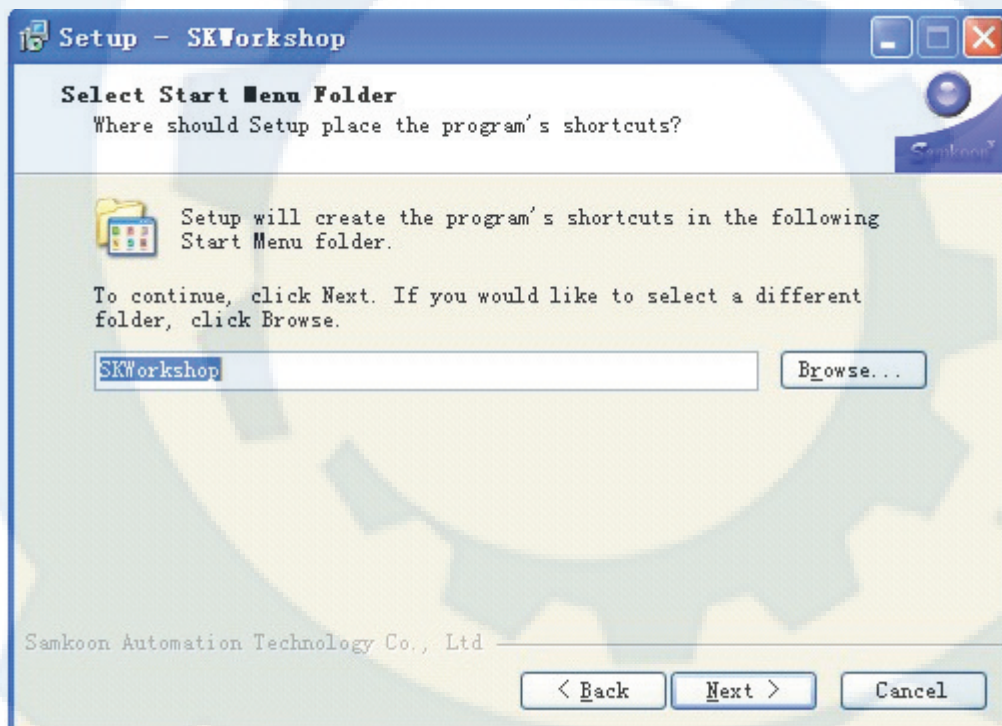

Figure 2-7: Installation folder selection dialog
- After clicking Yes in the dialog as shown in Figure 2-6, a dialog will appear to allow you to choose the installation folder. You may choose the default folder or other folders. Then, click Next, as shown in Figure 2-7.